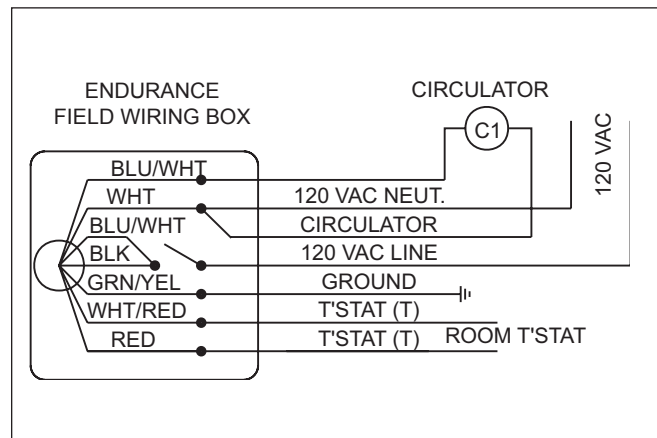

Figure 25. Single Zone with Added Circulator(s) and Room Thermostat(s).
2. For single zone installations: (If external pump is required, e.g., because of large system pressure drop) connect room thermostat wires to the red and white/red wires. Connect circulator (120 volt, 5 amps maximum) between the blue wire and the white wire (neutral) (see Figure 25). Note that the blue/white pump wire connects to a dry